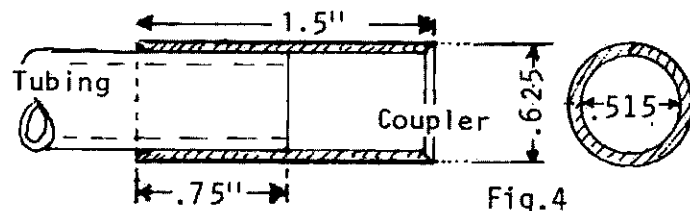

Fig. 4
4. Construct two couplers (3 for 6 ft version) as shown in Fig. 4.
-Final Assembly (Fig.4)